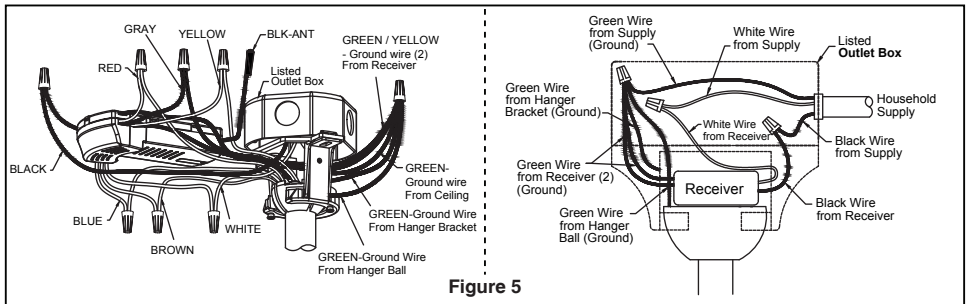

Figure 5
5. Route wires through motor coupling cover, canopy screw cover and ceiling canopy. (Figure 5)
4. After connections have been made, put the white and green leads to one side and the black leads towards the other side, the connection should be turned upward and carefully push leads into the outlet box. The wires should be spread apart with the grounded conductor and the equipment-grounding conductor on one side of the outlet box and the ungrounded conductor on the other side. (Figure 5)
5. Assemble the LED assembly to the light kit using the two key slots. Replace the removed screw from Step 3 and secure all three screws. (Figure 5)
5. To set the remote code same positions as the receiver with a small screwdriver or ball point pen (neither included), slide dip switches firmly up or down. (Figure 5)